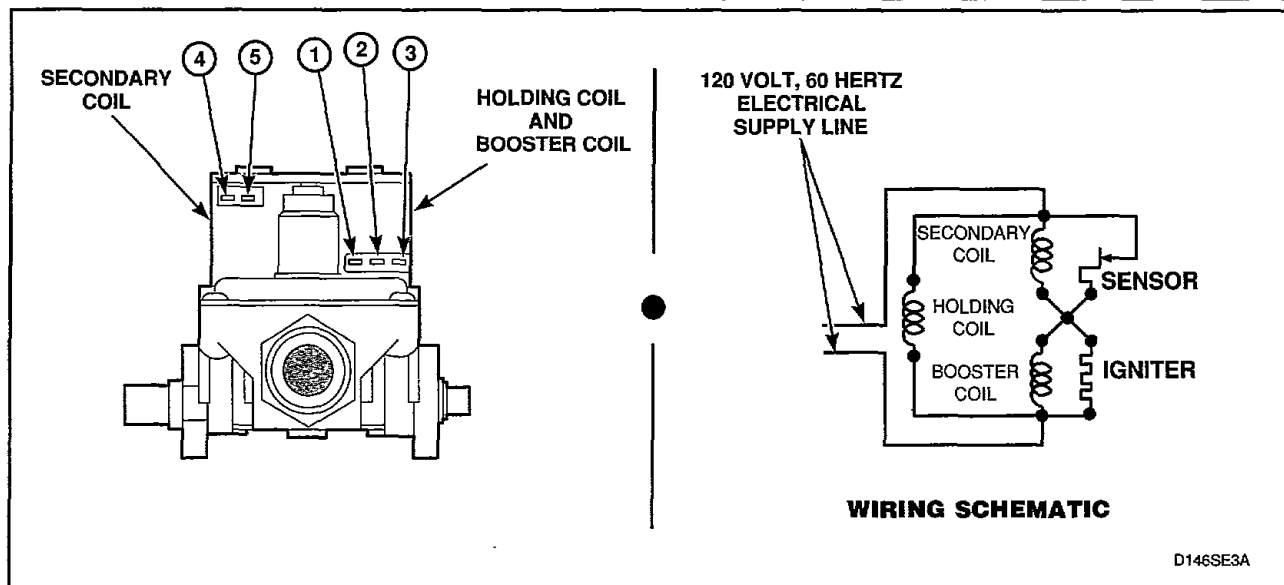

Figure 52
40. BURNER SYSTEM OPERATION (Gas Models - Figure 52)
41. IGNITION SYSTEM FEATURES (Gas Models - Figure 52)
- Remove valve wire harness disconnect block from the holding and booster coil, *Figure 52*.
- Set test meter to read AC voltage and apply meter probes into terminals on the dryer harness that would correspond to terminals "1" and "2" on the coil, *Figure 52*. Meter should register line voltage in all temperature settings, except FLUFF which should read "zero" VAC.
- Remove disconnect blocks from gas valve coils, *Figure 52*.